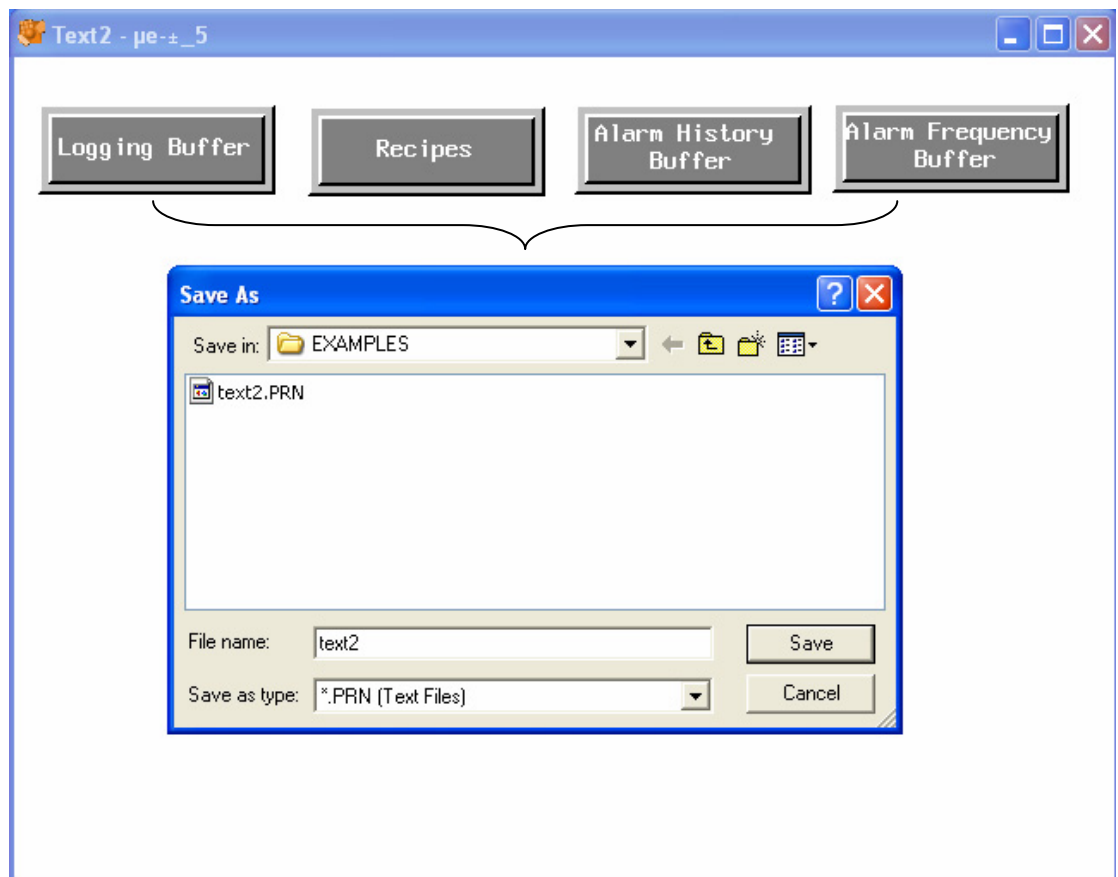

Figure 120. Execute the [Data to Text Conversion] Button
2. Select the correspondent [Data to Text Conversion] button (ex. [Logging Buffer],[Recipes]...etc) to specified data. Then, the dialog box will ask for enter the file name (*.PRN) to save. See Figure 120.